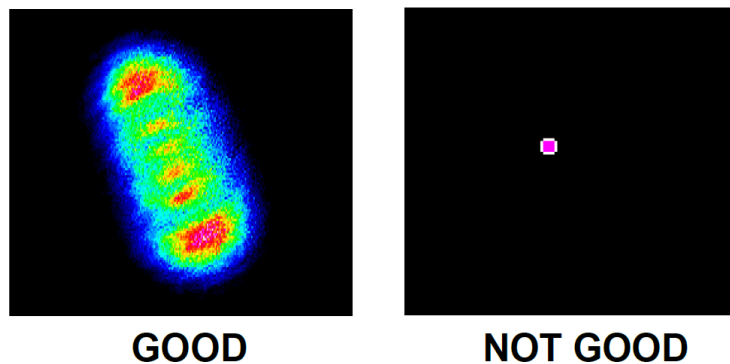

Fig. 6.1: The capture block should contain the beam without excessive 'dead' space.
4. Next, minimize the 'dead' space around the beam by redefining the Capture Block (See Section 2.3) to be as small as possible while still fully capturing the beam (Fig. 6.1). If this is not done, a residual un-subtracted integrated image background may be a significant percentage of the pulsed signal, and may compromise correct capture and analysis. (The software automatically subtracts the baseline value, based upon the lowest signal level in the capture region.)